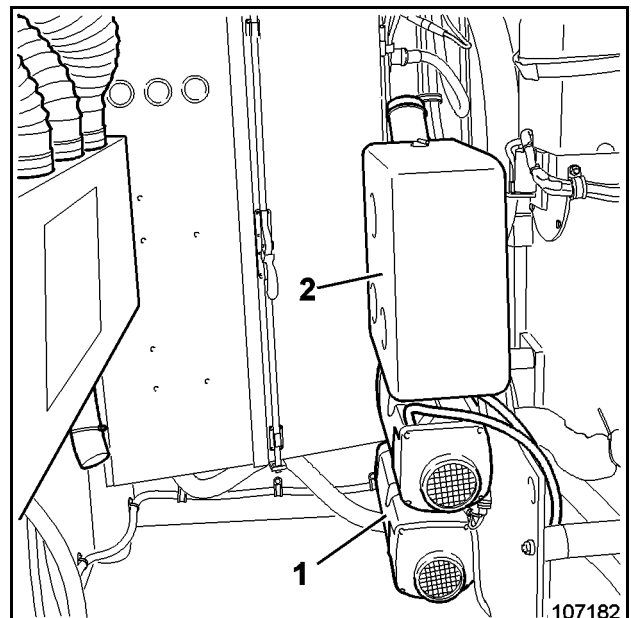

Fig. 2-98:
The back-up heating for the driver's cab is located in the module below the driver's cab (Fig. 2-98:). The heating consists of one or two heating units (1) and the fuel reservoir (2).